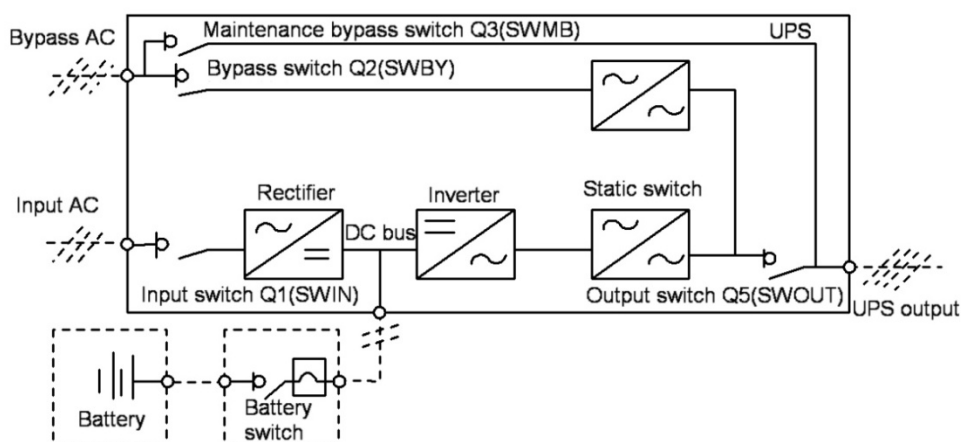

Figure 1-2 UPS switch
1. With the intelligent control for the “static switch” which consist of the controlled electronic switching circuit(see Figure 1-2). The loads can be powered by both the inverter output and the bypass input. Under normal conditions, the loads are powered by the inverter whose static switch is closed. In case of overload (beyond the overload time limit) or fault with the inverter, the static switch will automatically switch to the bypass circuit.
Figure 1-2 is a block chart of the UPS standalone machine with “separated bypass power”. In the separated bypass, the static bypass circuit and the maintenance bypass circuit both have an independent bypass power. Without a separated bypass power, make a short circuit between the input of the bypass switch Q2 and the input of the bypass switch Q1 (for standard machines, there is expected to be a short circuit here) so that the bypass input and the rectifier input use the same AC.